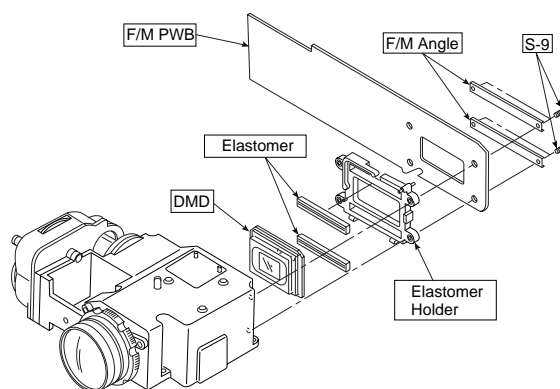

Fig. 10
- 10) DMD and F/M PWB (See Fig. 10.)
Remove the four screws (S-9) shown in Fig. 10, and detach the DMD and F/M PWB from the lens base.